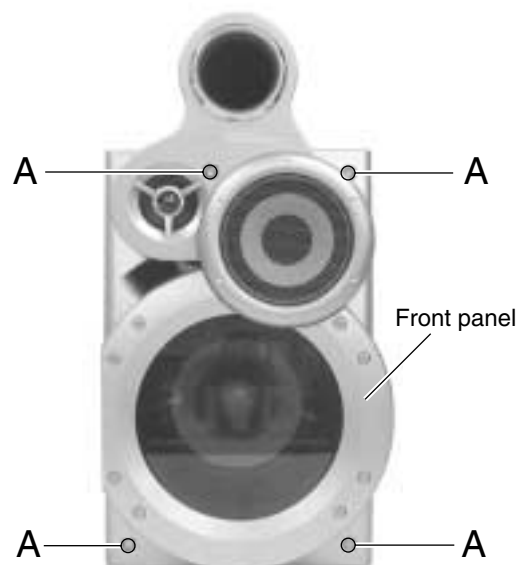

Fig.1
■ Removing the front panel (See Fig.1)
■ Removing the CD Servo control board (See Fig.1)